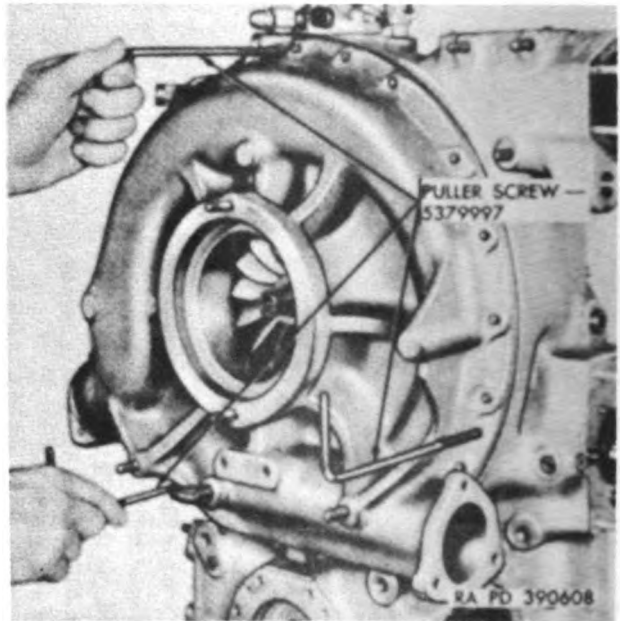
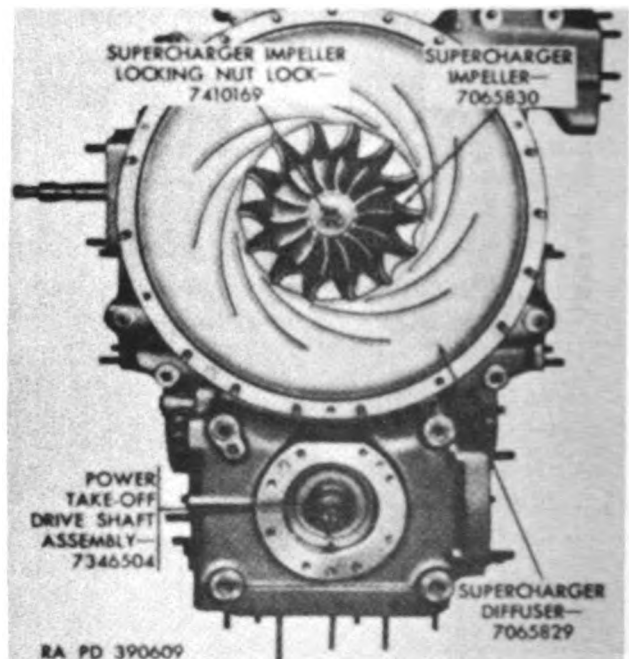

Figure 104. Removing supercharger housing assembly.
Figure 105. Front of accessory case—supercharger housing assembly removed.
a. Remove 19 hex self-locking nuts (S), or hex stamped nuts (T) and hex nuts (S), and flat washers (R) securing supercharger housing assembly (E) to accessory case. Two nuts are on accessory case side of housing.
b. Remove supercharger housing assembly (E) from accessory case using three puller screws 5379997 (fig. 104). Remove and discard "O" ring packing (F). Figure 105 shows front